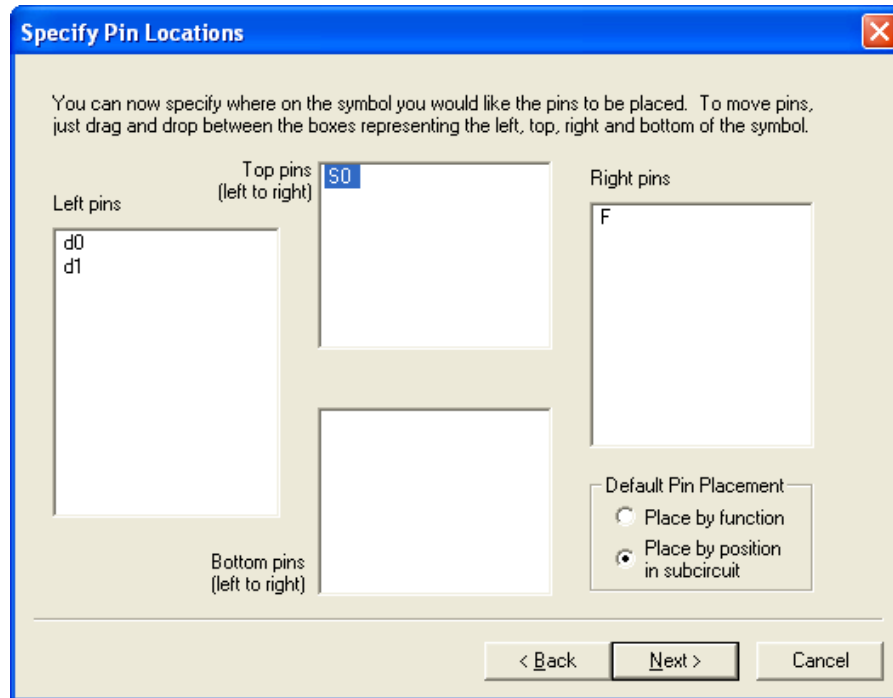

Figure 6
- I. You may re-arrange the positions of the pins: Click on “S0” on the “Left pins” field and drag it to the “Top Pins [left to right]” field, as shown in Figure 6.